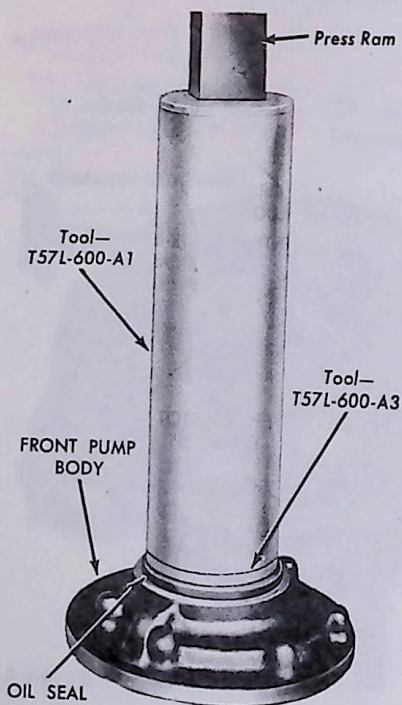

FIG. 48 Front Pump Seal Installation
3. Support the machined rear face of the pump body on a flat surface and press the seal into the body (Fig. 48). Use a hand press for this operation. Using a hydraulic press may damage the seal. Press the seal into the pump body until the distance measured from the front surface of the seal to the rear machined surface of the pump body is 1.595-1.605 inches.